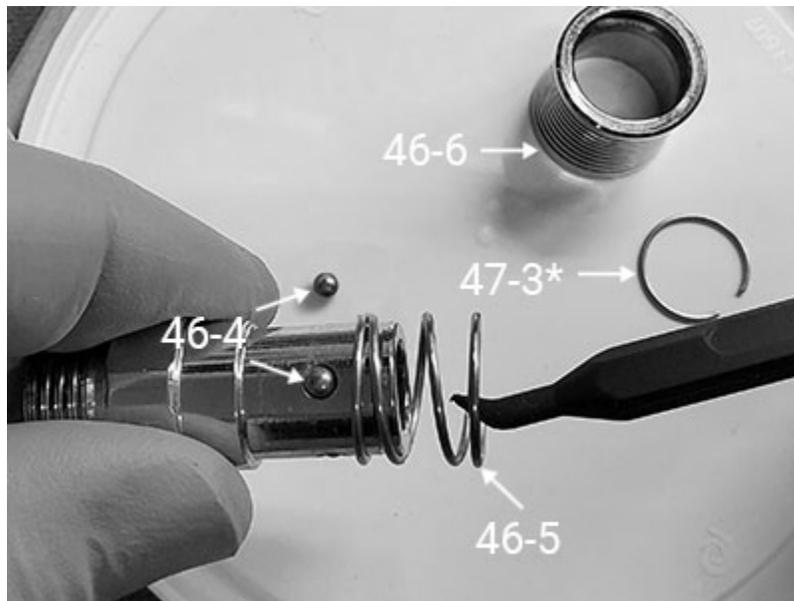

Fig. 56
3. Positioning the Adapter over a shallow container, carefully slide the Collar off the Body and remove the Collar Spring (46-5) - Fig. 56. The four Ball Bearings (46-4) will now likely fall out. If any are retained, push them out from the inside with a nylon pick.